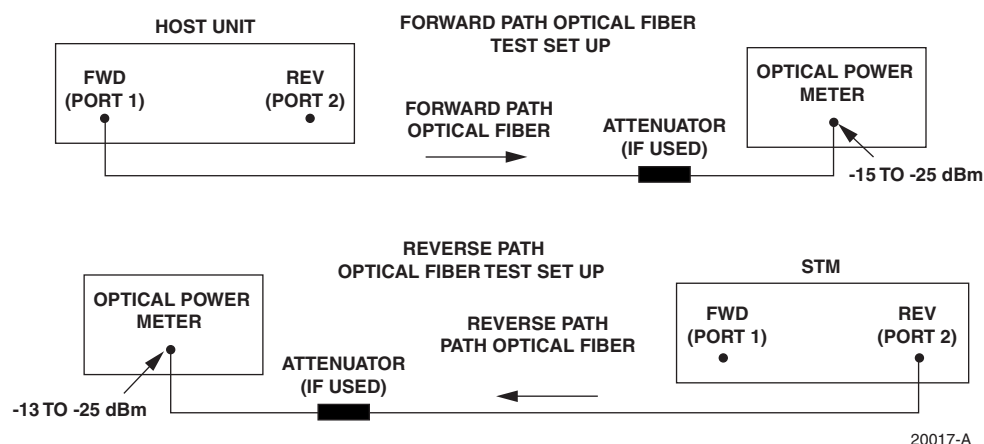

Figure 4-2. Forward and Reverse Path Optical Fiber Test Set Up
6. Connect the optical power meter to the **output** (receiver) end of the optical fiber as shown in Figure 4-2. If an attenuator was included in the fiber link, make sure the attenuator is installed.
7. Connect the **input** (transmitter) end of the optical fiber to the **transmitting** HU or STM (see Figure 4-2).